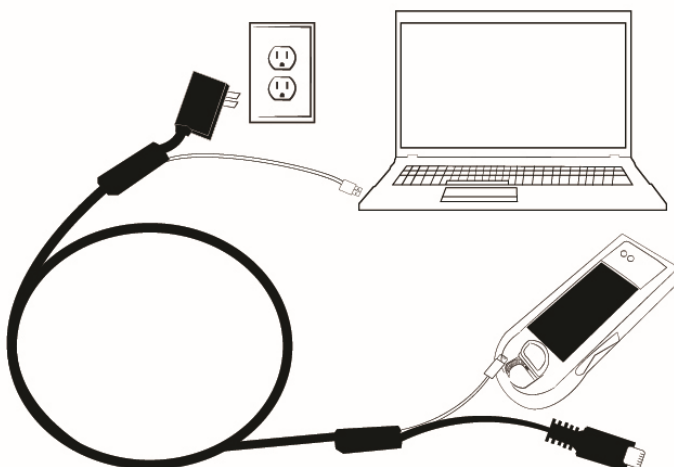

Figure 19: Connecting MolecuLight *i:X* to a computer to transfer images/videos
1. Connect the white connecting cable on the MolecuLight Power Cable (P/N 1142) to the port on the MolecuLight *i:X* Display Screen. Connect the USB connector end of the white connecting cable to your computer as shown in Figure 19. When prompted to 'allow' or 'trust' the computer on the MolecuLight *i:X* Display Screen, you may do so. Communication between MolecuLight *i:X* and your computer will be established automatically.
3. Close the iTunes window, select Finder (Mac) or Windows Explorer (PC) and select the MolecuLight Device under Portable Devices. You will be able to access your images within the MolecuLight Device folder.